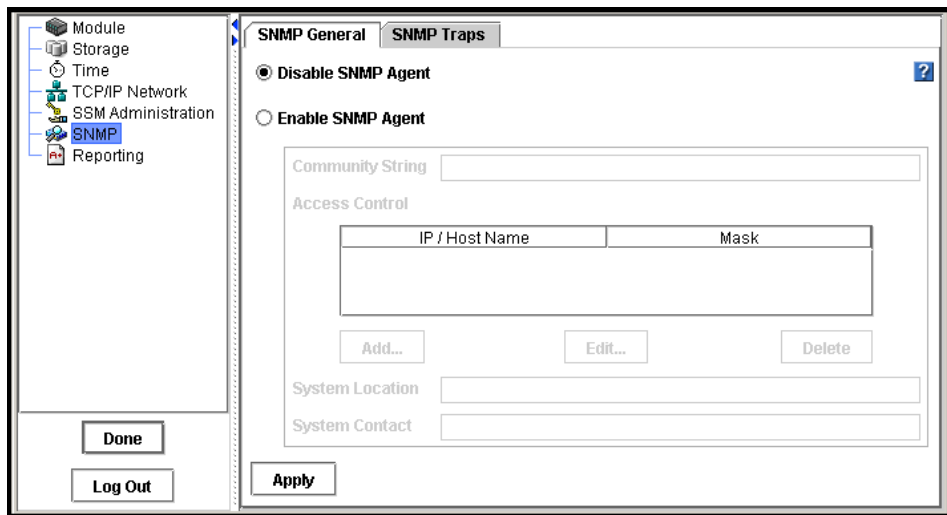

Figure 112. Using SNMP
2. Select SNMP from the configuration categories. The SNMP General tab opens, shown in Figure 112.
2. Select SNMP from the configuration categories. The SNMP General window opens, shown in Figure 112.
2. Select SNMP from the configuration categories. The SNMP General window opens, shown in Figure 112 on page 141.